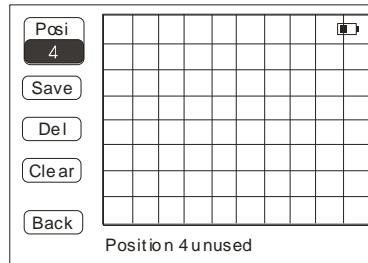

fig8. Fig of save window
4. Press Key F4 to save the current test waveform. (see Note1 and Fig 8.)